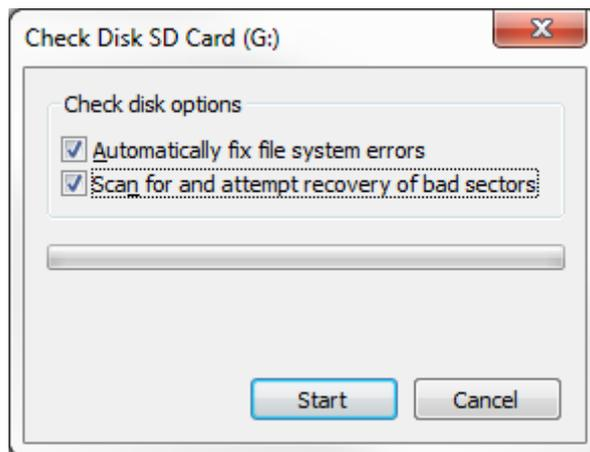

Figure 12: Check Disk
- If the recording was stopped in an unsafe way (i.e. removed batteries), sometimes the recordings can be recovered. This can be done by right-clicking the Flash card drive in “My Computer”, and clicking “Properties”. Under “Properties” choose the tab “Tools” and click “Check now”, see Figure 12.